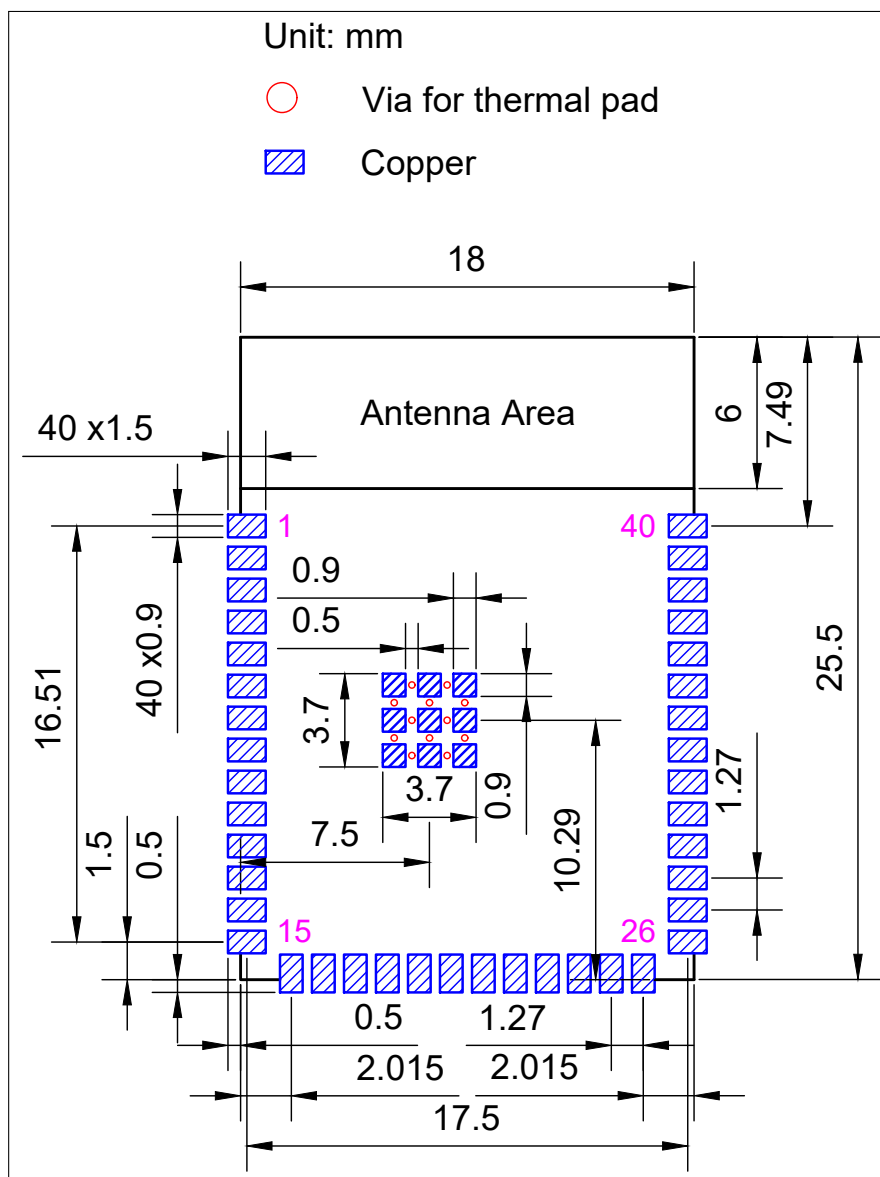
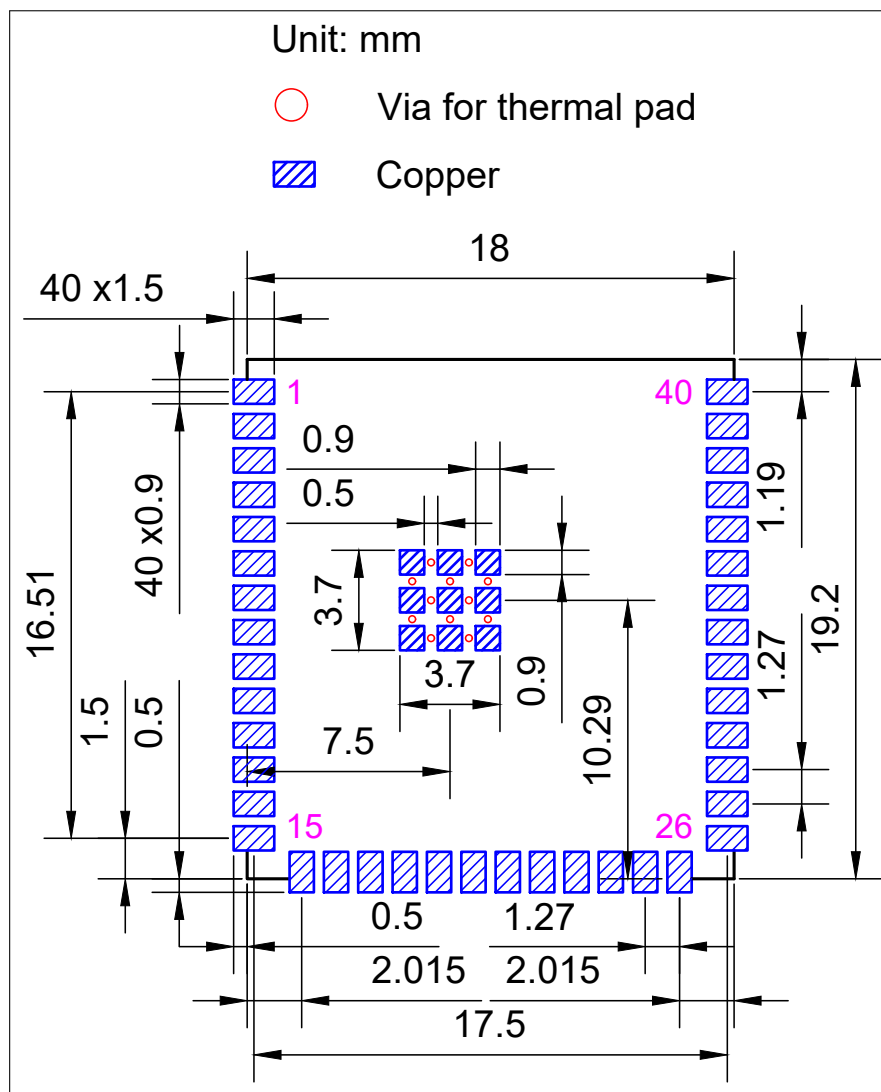

Figure 11: ESP32-S3-WROOM-1 Recommended PCB Land Pattern
Figure 12: ESP32-S3-WROOM-1U Recommended PCB Land Pattern
- Figures for recommended PCB land patterns with all the dimensions needed for PCB design. See Figure 11 ESP32-S3-WROOM-1 Recommended PCB Land Pattern and Figure 12 ESP32-S3-WROOM-1U Recommended PCB Land Pattern.
- Source files of recommended PCB land patterns to measure dimensions not covered in Figure 11 and Figure 12. You can view the source files for ESP32-S3-WROOM-1 and ESP32-S3-WROOM-1U with Autodesk Viewer.